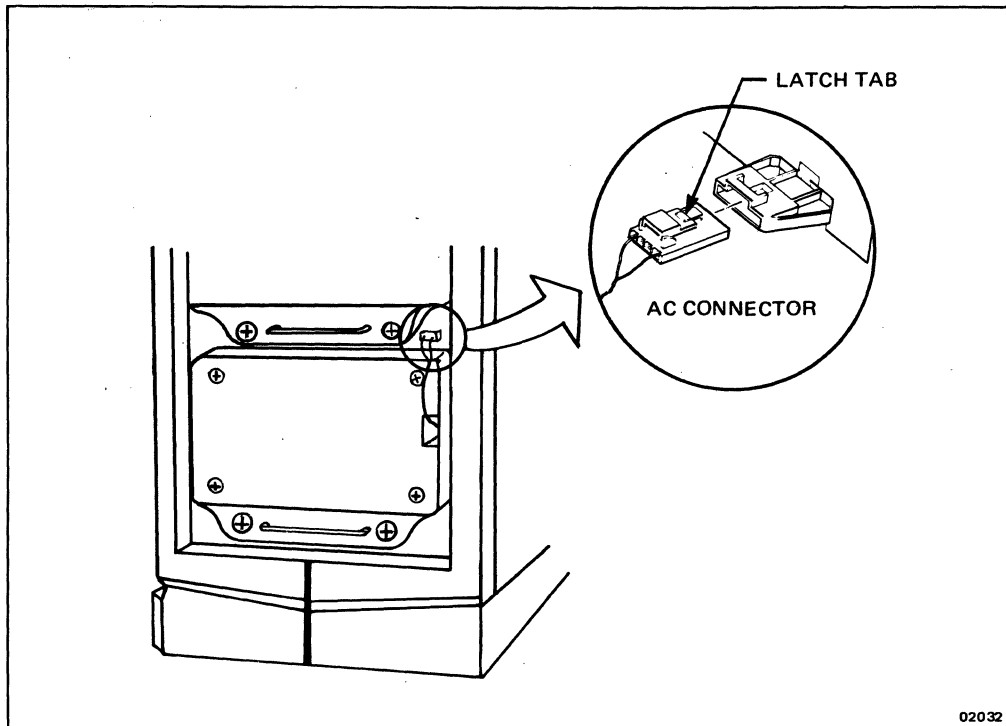

Figure 6-7. Removing/Replacing the Hard Disk AC Connector
Perform the following procedure to remove the hard disk drive (see Figures 6-7 and 6-8):
3. Unplug the small AC connector located near the upper right corner of the hard disk drive by pressing down on the latch as shown in Figure 6-7.
Perform the following procedure to replace a hard disk drive (see Figures 6-7 and 6-8):
6. Plug the hard disk AC connector into the corresponding connector located in the upper right-hand corner of the drive slot as shown in Figure 6-7.